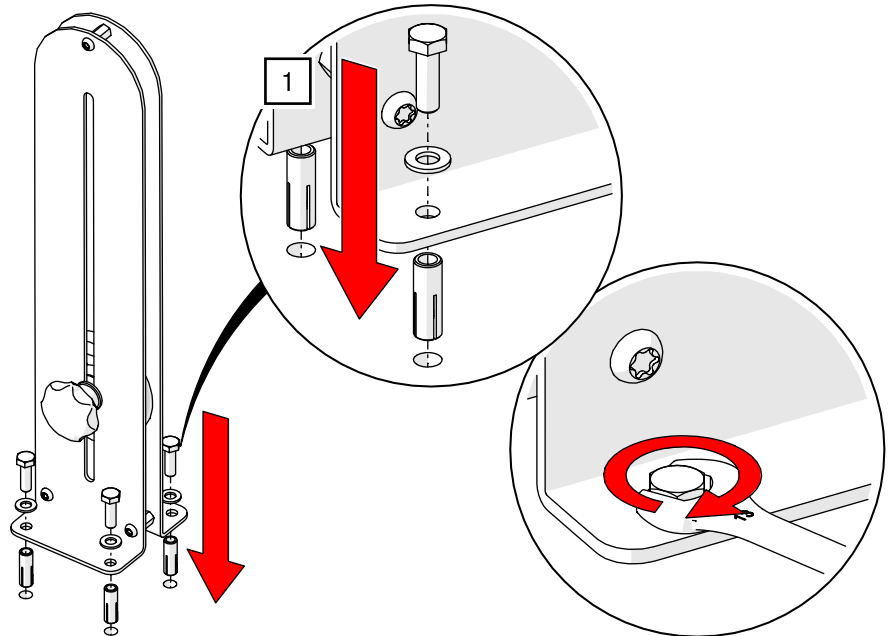

Fig. 129: Manual drive – Fitting the floor pulley
1. Screw the floor pulley to the position exactly vertically below the cord outlet of the track on the floor using assembly material suitable for the substrate (assembly according to manufacturer's instructions; example concrete / screed – see Fig. 129).